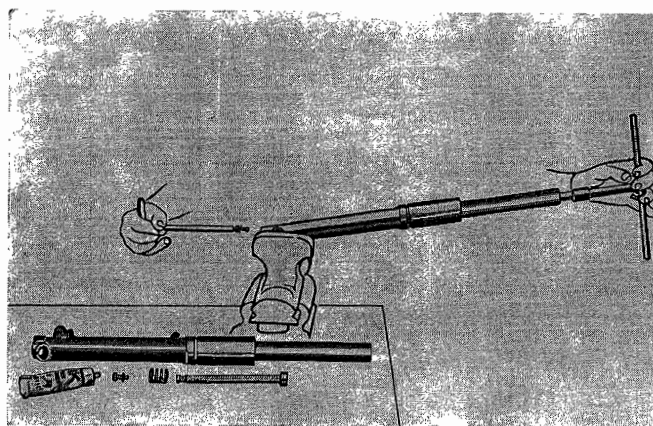

Fig. 113
Using a suitable T wrench (see Fig. 113), that locks the damper stem, push the stem forward in order to have the necessary stress while securing the screw (26) with a T wrench for inside hexagons.